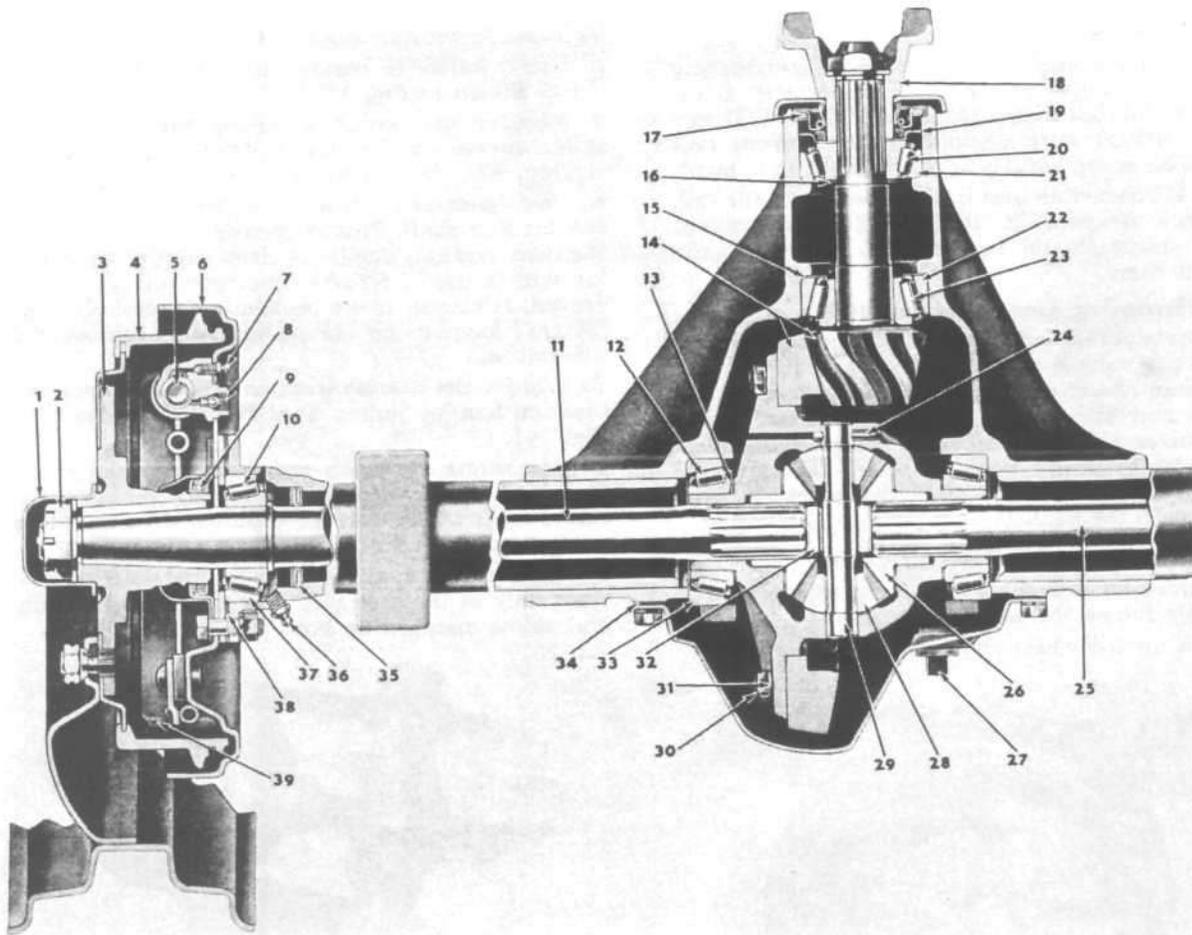
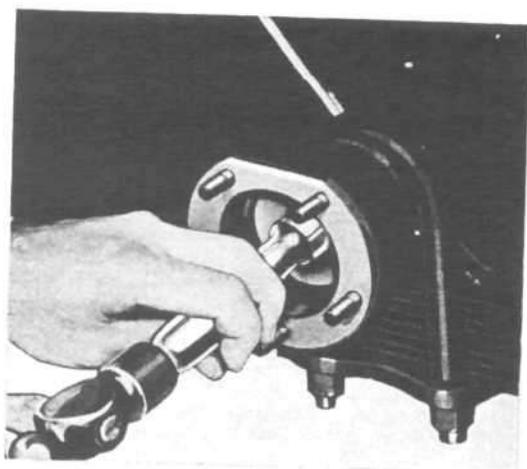
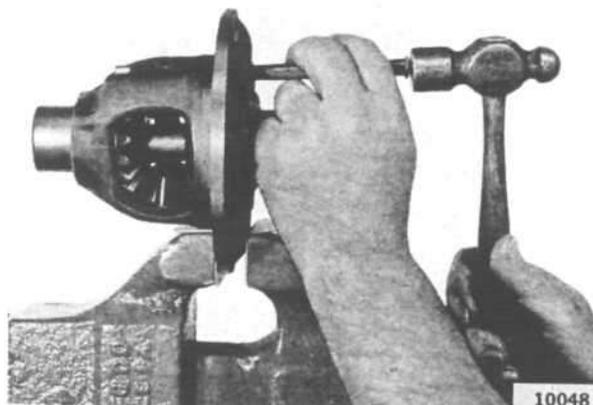

FIG. 242—REAR AXLE ASSEMBLY
FIG. 243—OIL SEAL DRIVER
FIG. 246—REMOVING LOCK PIN
Assembly is the reverse of dismantling. Check the shaft oil seal, No. 35, Fig. 242, before installing the axle shaft. If replacement is necessary use axle shaft oil seal driver W-186, Fig. 243. Also check the grease retainer, No. 9, Fig. 242, and replace it if there is any doubt of its condition. Adjust the wheel bearings as outlined in Section R.
- f. The differential shaft (Fig. 242, No. 29) is held in place by a lock pin (24). Use a small punch as shown in Fig. 246 to drive out the lock pin. Remove the differential shaft.